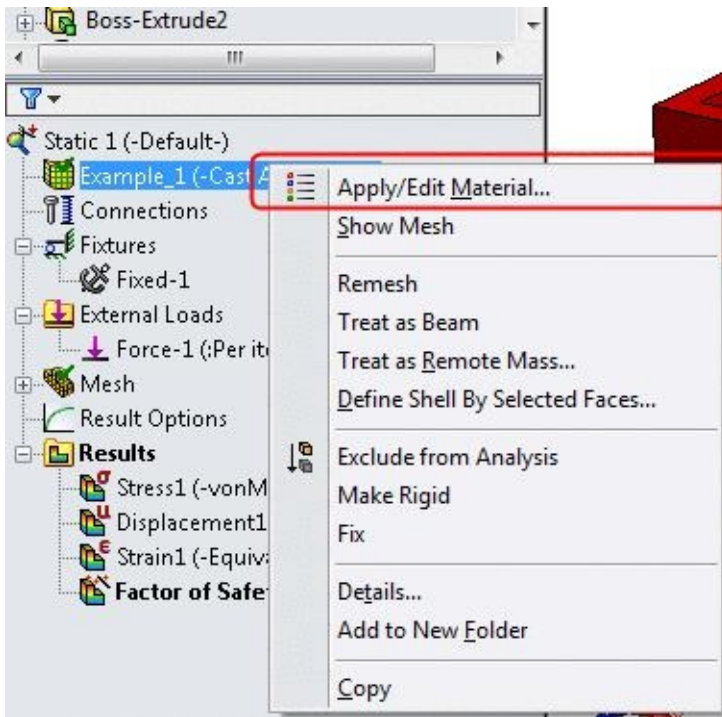

Figure-22. Shortcut menu for material
- In this case, we change the material to **Alloy Steel**. To do so, right-click on the **Material** node in the **Analysis Manager**. A shortcut menu will be displayed as shown in Figure-22.